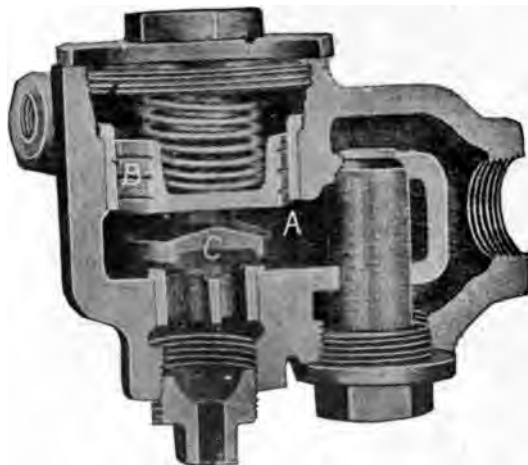
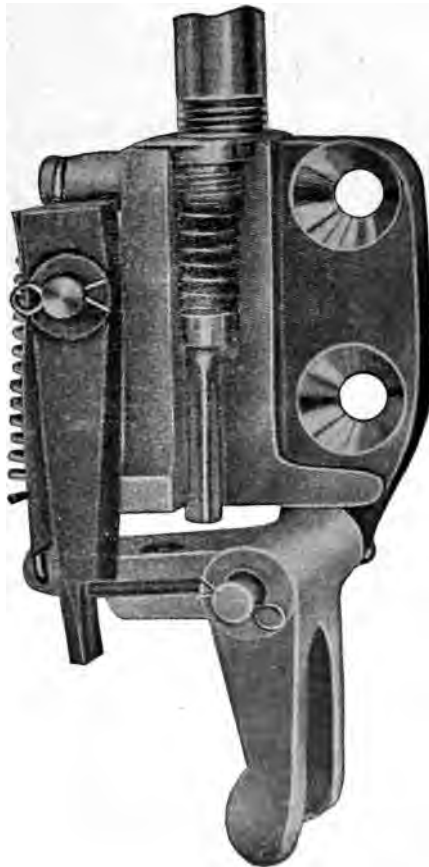

Fig. 500. Main Valve. Emergency Air Brake Attachment.
Fig. 501. Pilot Valve Emergency Air Brake Attachment.
42. THE EMERGENCY AIR BRAKE ATTACHMENT for master controller (Fig. 493) consists of a main valve outside of the controller (Fig. 500), and a small pilot valve (Fig. 501) within it. The main valve